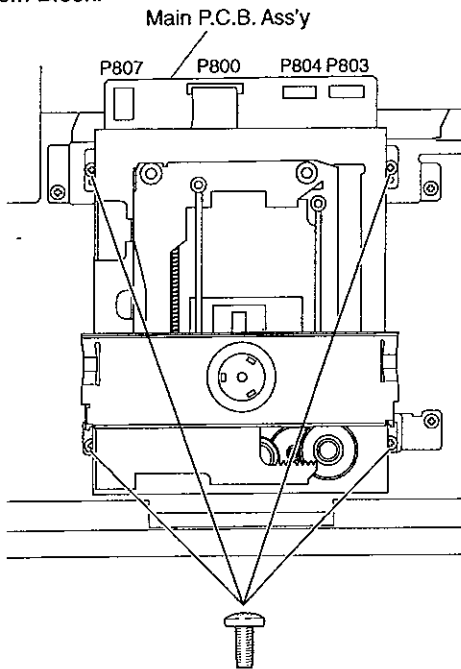

Fig. 2.5
See Fig. 2.5.
- (1) Remove the DVD Mechanism Block referring to item 2.4.
- (2) Disconnect the flat cable from the connector P800 on the Main P.C.B. Ass'y. See Fig. 2.5.